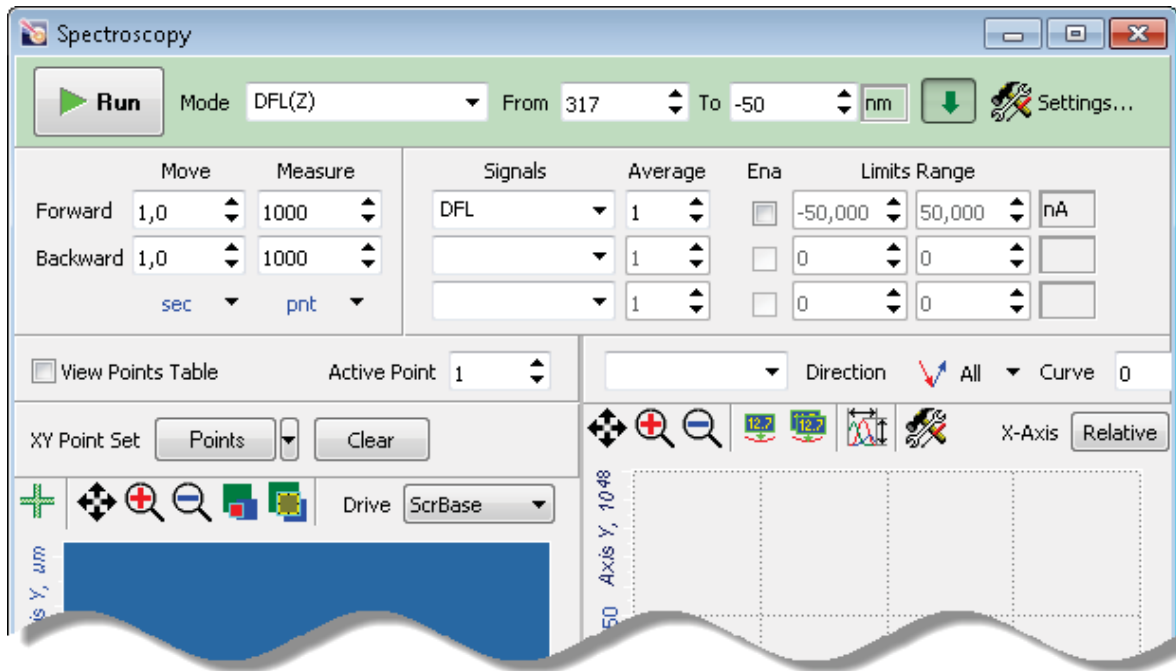

Fig. 13-8. Spectroscopy window
3. Open the **Spectroscopy** window by clicking the  button in the Main Operations panel (Fig. 13-8).